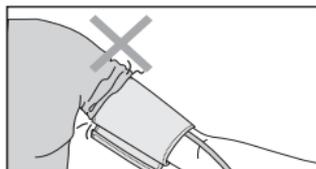

Fig. 12
7. If the rolled-up sleeve squeezes the arm interfering with free blood flow the Device may give inaccurate figures not corresponding to your actual blood pressure (Fig. 12).